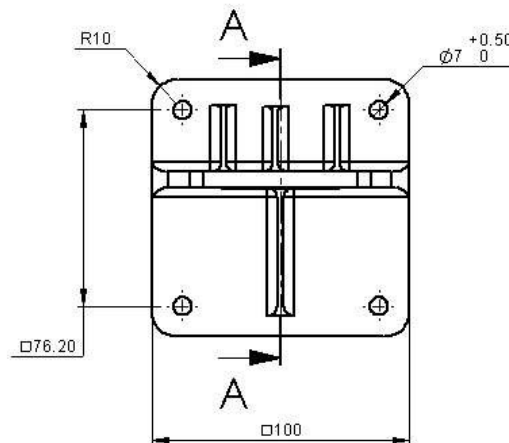

Figure 1: Tilt Mount Base - Rear View
- Place the tilt mount (Fig. 1) in its designated location and secure it with four screws through four 0.28" (7mm) diameter holes. There are four captive screws with spring washers in the tilt mount.